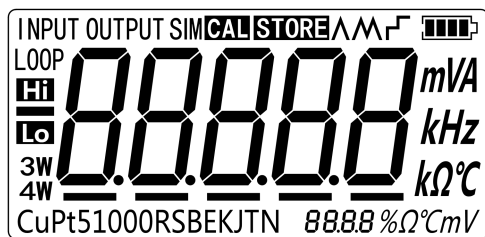

Figure 2.1-2
2. Press  more than 2 seconds to turn on the calibrator. The calibrator checks itself, including check on internal circuit and LCD, during which, LCD displays all contents for 1s as shown in Figure 2.1-2: